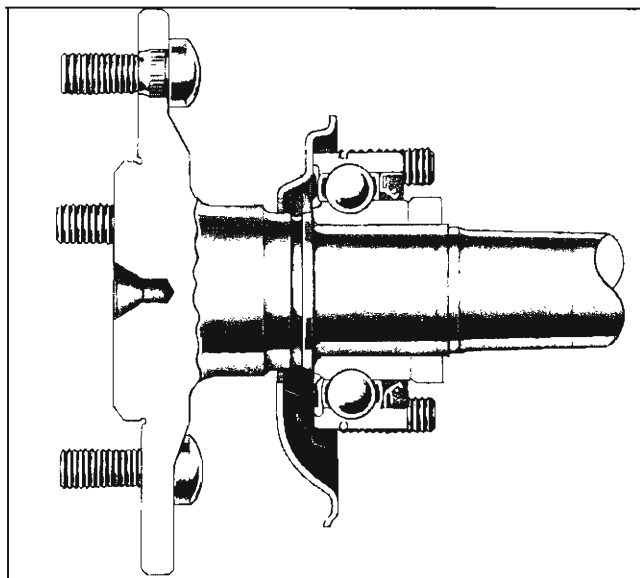

Fig. 3—Rear Axle Shaft and Bearing Detail
over the entire seal and press seal into the bearing until the rim of the seal case is flush with the top surface of bearing outer race. Refer to Figure 3 for correct seal position.
2. Position bearing assembly on axle shaft with seal toward splined end of shaft, as shown in Figure 3.